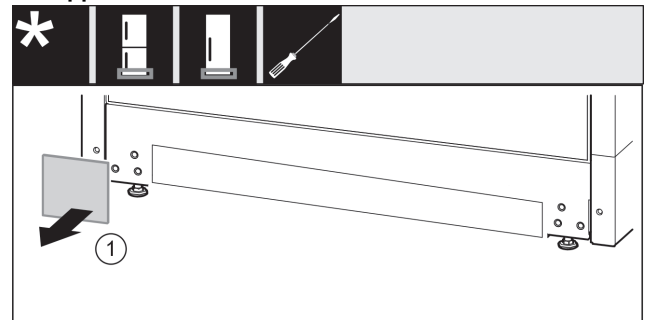

Fig. 16
- ▶ Take off the cover. Fig. 16 (1)